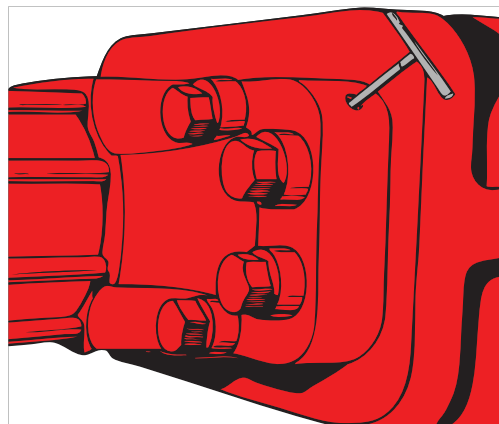

Figure 4-12. Tightening the Secondary Ram Shaft Seal
2. With the pipe plug removed, a second socket head screw plug is exposed. Tighten this to inject the secondary ram shaft seal (see Figure 4-12).